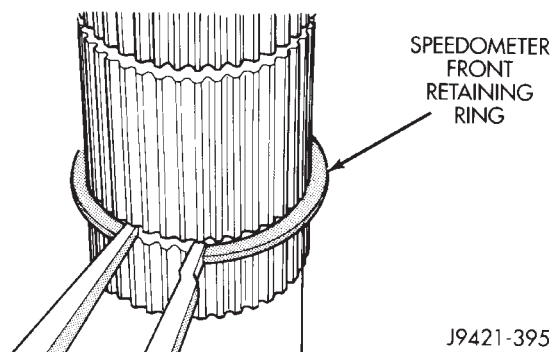

Fig. 32 Speedometer Gear Front Snap Ring Removal
(18) Remove speedometer gear front snap ring from mainshaft (Fig. 32).